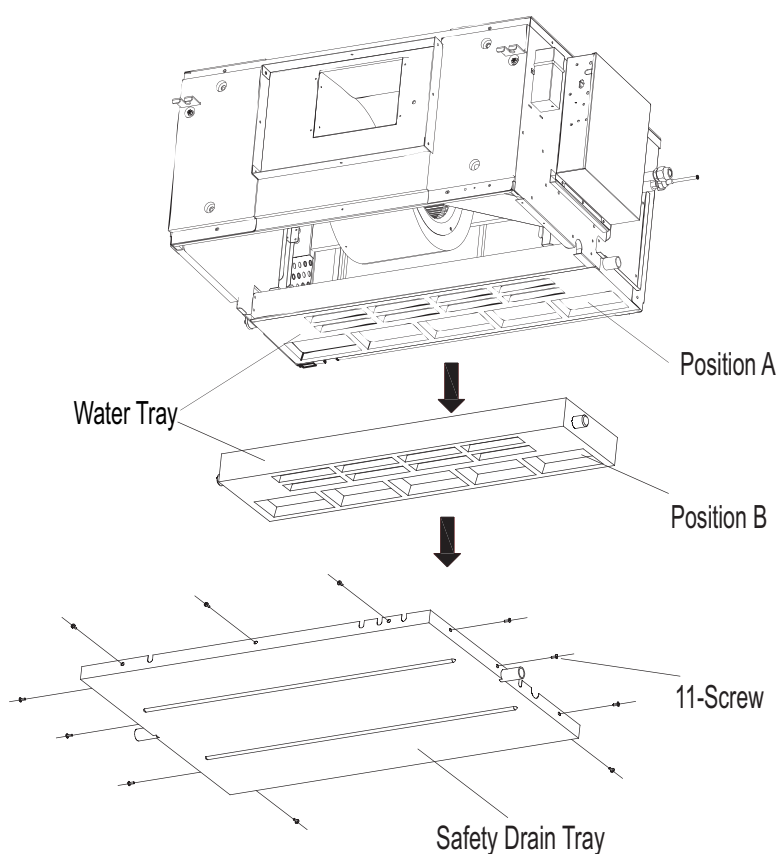

Fig.4-13
3. Take off the tray along the direction of the arrow show in Fig.4-13